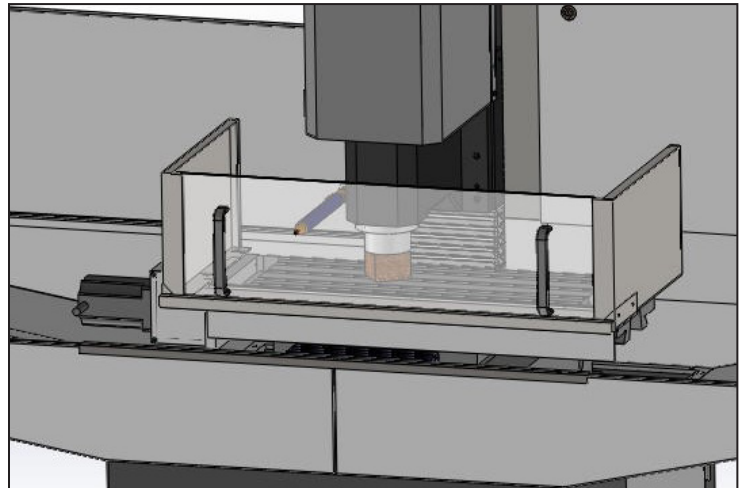

Figure 15
4. Using four socket head cap screws, attach *Table Guard Kit* assembly onto mill table (see **Figure 15**) and fasten at locations indicated in step 1.